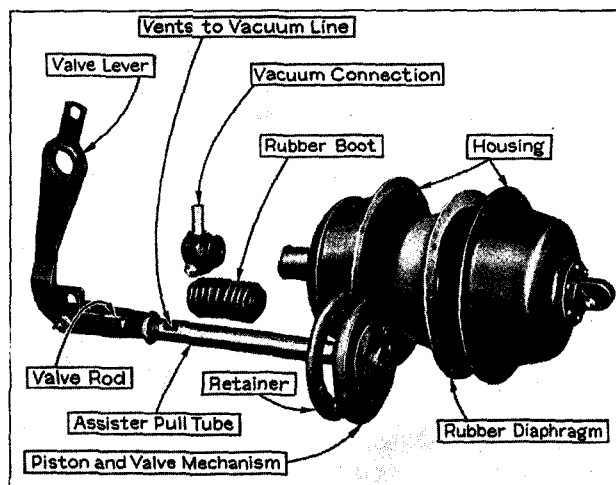

Fig. 2. Exploded view of the brake assister mechanism.
**Assister Mechanism:** The relative position of the brake assister parts is shown in Fig. 2. The